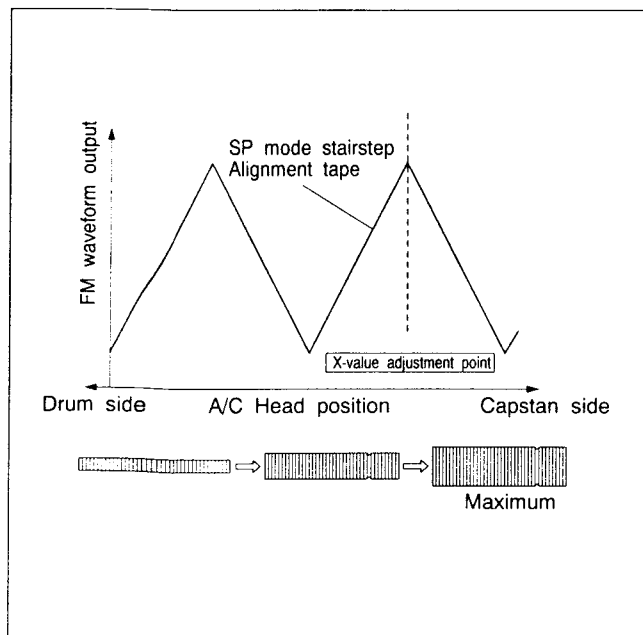

Fig. 2-7-7
- (5) Turn the tool first to position the A/C head fully toward the capstan. Then gradually return it toward the drum and stop at the position of maximum FM waveform output level as shown in Fig. 2-7-7.
- (6) Tighten screw (5). Remove the tool and tighten screw (4).